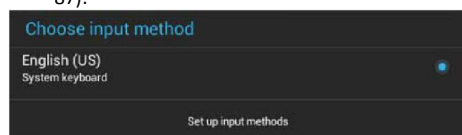

FIG. 87 Choose Input Method window
4. In the Language & Input page, under KEYBOARD & INPUT METHODS, press **Default** to open the Choose Input Method window (FIG. 87):